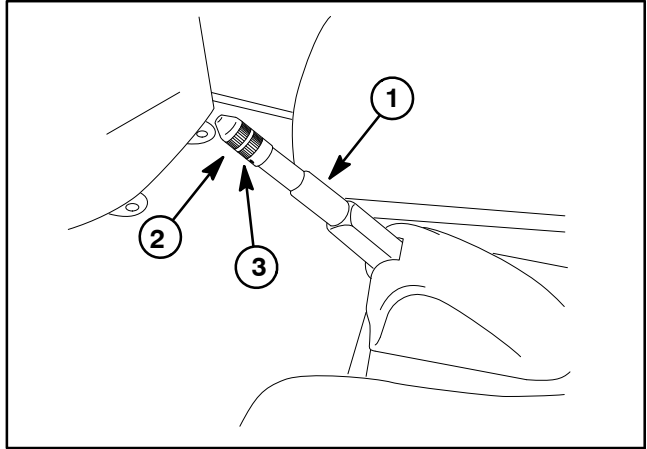

Figure 3
2. Loosen the set screw securing the knob to the parking brake lever (Fig. 3).